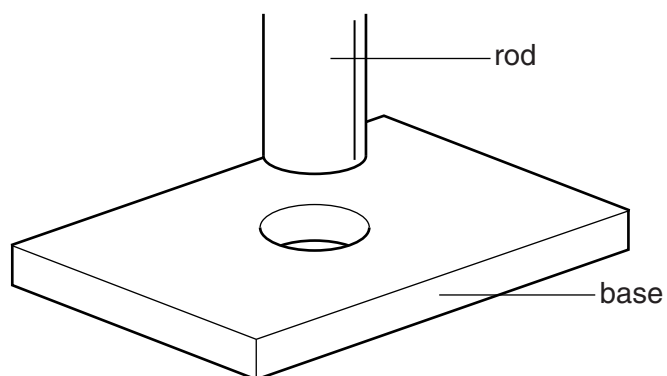

Fig. 2
- 4 Fig. 2 shows a rod that will be joined permanently to a base.